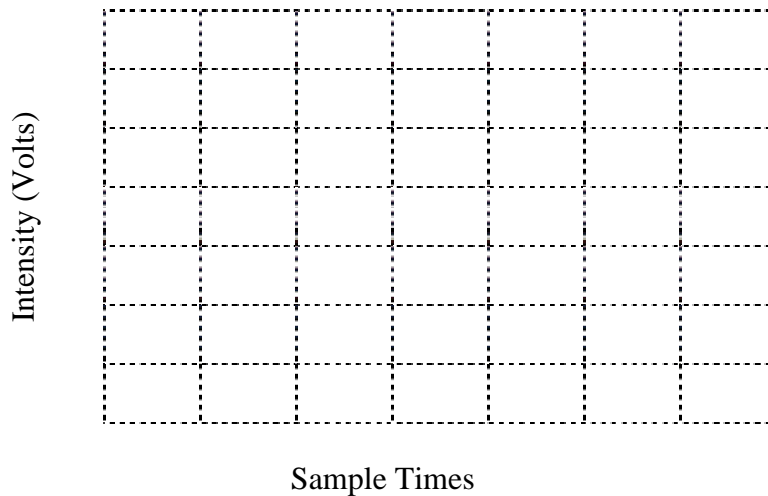

Figure 2. A chart for doing DAC.
5. Label the vertical axis of the graph in Figure 2 below for the voltage levels of the reconstructed signal. You may wish to include both the binary number and voltages (one represents the other).